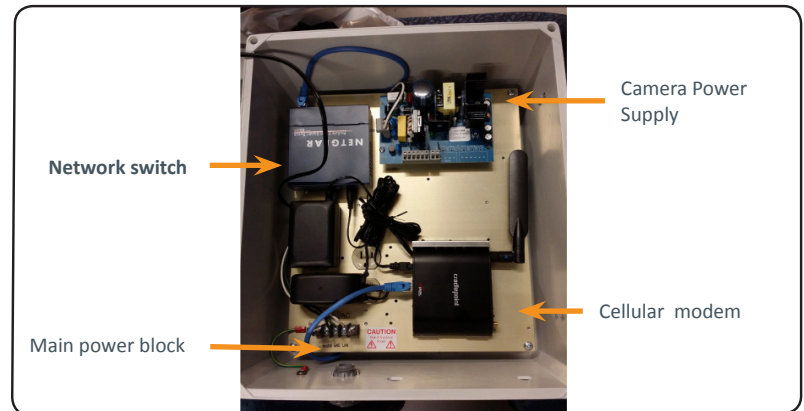

Fig. 3 - Mobile Solution (interior)
2. Utilize the conduit connector to run electrical power through the left most hole to the enclosure's main power block (Fig. 3) and connect the enclosure to ground.